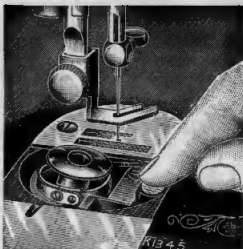
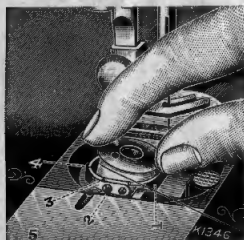

Fig. 6.
Fig. 8.
Do not work the machine with the bobbin case (1, Fig. 8) and needle threaded, except when sewing.
The slide (5, Fig. 8) must be kept closed.
Draw the slide (5, Fig. 8) to the left and press the forefinger of the right hand upon the bobbin ejector, as shown in Fig. 6. This will raise the bobbin so that it can be easily taken out.
(See Fig. 8).
Fig. 8. With the left hand draw the thread into the slot (3), back between the spring and side of the bobbin case until it reaches the notch (4); then across the bobbin towards the needle. Thereafter close the slide (5).
Raise the needle to its highest point, and remove the slide (5, Fig. 8) by raising its front edge.
thumb nut in the direction illustrated by the arrow, or to lessen the tension, turn the nut in the opposite direction. All machines are correctly adjusted before leaving the factory, and it is therefore seldom necessary to alter the under tension. Should it become necessary to do so, however, tighten the tension spring screw (2, Fig. 8) on the left hand side of the bobbin case to increase the tension, or loosen the screw slightly to lessen the tension.